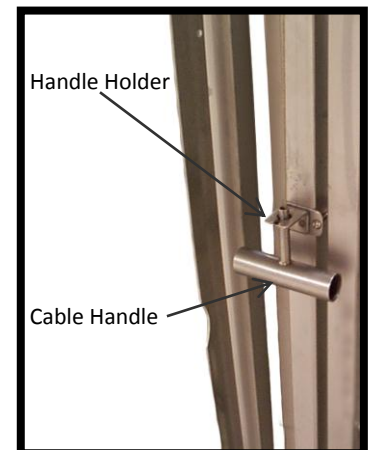

Figure 70: Cable Handle in Handle Holder
8. Place the cable handle in the handle holder (Figure 70).